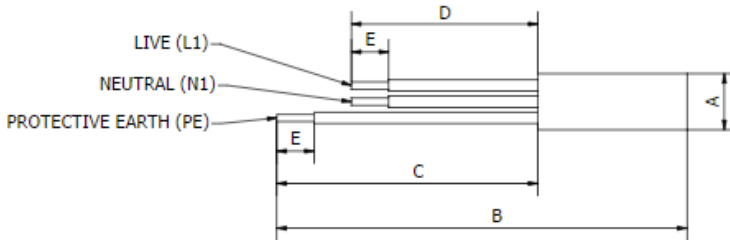

Figure 10: Wire length preparation diagram
- The mains power cable to the Sunamp Controller should be a minimum of 2.5mm2, 3 core H05 VV-F sheathed cable, to BS 6500. This cable must be prepared according to Figure 10 (below), where the Green/ Yellow (Protective Earth) cable is 15 mm longer than the Brown (Live) and Blue (Neutral).
- Prepare if necessary and wire the mains power cable in the following terminals (Figure 10):